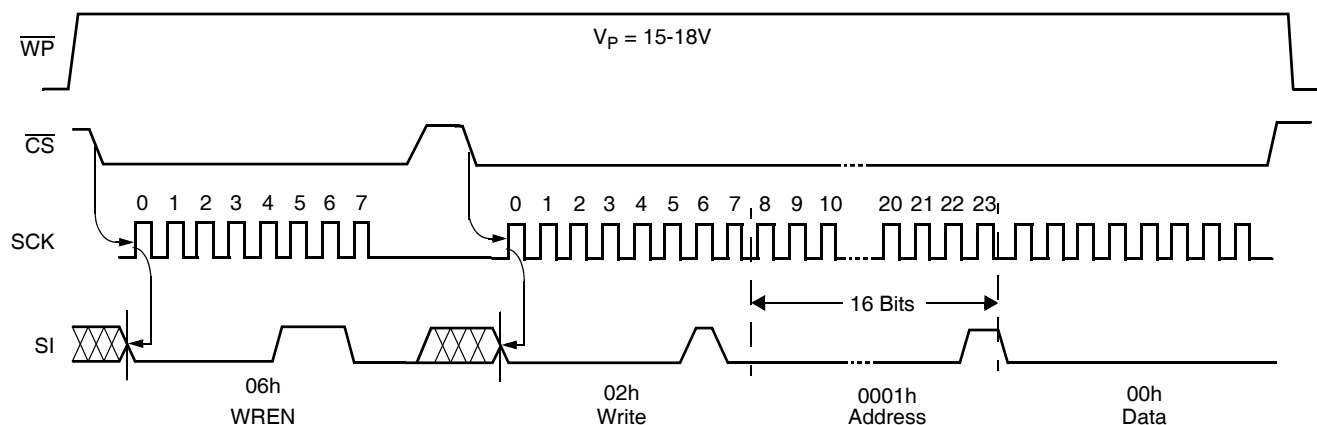

FIGURE 1. SET V_{TRIP} LEVEL SEQUENCE ($V_{CC} = \text{DESIRED } V_{TRIP} \text{ VALUE}$)
0000 0001	Write status instruction—followed by: Block lock/WDT byte: (See Figure 1) 000WD ₁ WD ₂ 000 --->no block lock: 00h-00h--->none of the array 000WD ₁ WD ₂ 001 --->block lock Q1: 0000h-00FFh--->lower quadrant (Q1) 000WD ₁ WD ₂ 010 --->block lock Q2: 0100h-01FFh--->Q2 000WD ₁ WD ₂ 011 --->block lock Q3: 0200h-02FFh--->Q3 000WD ₁ WD ₂ 100 --->block lock Q4: 0300h-03FFh--->upper quadrant (Q4) 000WD ₁ WD ₂ 101 --->block lock H1: 0000h-01FFh--->lower half of the array (H1) 000WD ₁ WD ₂ 110 --->block lock P0: 0000h-000Fh--->lower page (P0) 000WD ₁ WD ₂ 111 --->block lock Pn: 03F0h-03FFh--->upper page (PN)